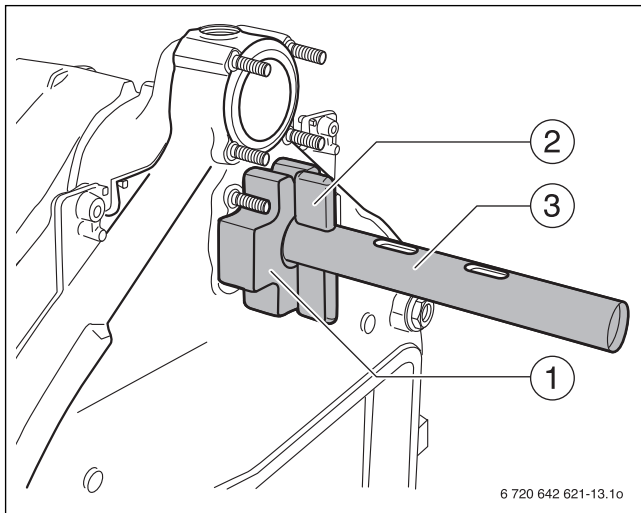

Fig. 18 Boiler assembly tool on rear section
- ▶ Push mating flanges (Fig. 18, [1]) onto the tie rods (Fig. 18, [3]) and secure each with wedge (Fig. 18, [2]).